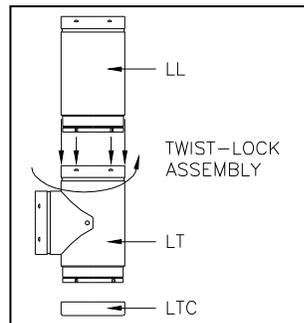

Fig. 2
3. To start the liner installation, attach the tee (LT) to the first length (LL). Insert the liner with the male (smaller connection) end down. Twist lock the part together (fig.2). Attach the cap (TCS or LTC) to the base of the tee.
2. Attach the tee (LT) to the first liner length. Insert the liner with the male (smaller connection) end down. Twist lock the parts together (fig. 2 page 4).